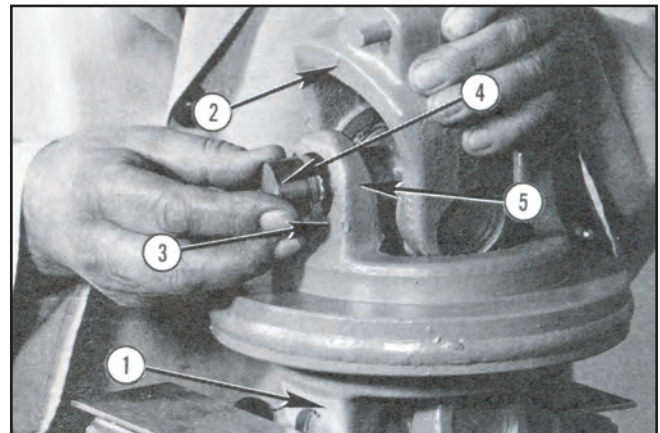

FIGURE 99
12. Clamp flange yokes assembly (1) between vice jaws as shown. Insert outer yoke and replaced center cross assembly (2) into yoke (3). Start needle bushing (4) into yoke. With a 1 1/4" O.D. driver (not shown), continue seating both bushings inward. Insure both center cross shafts are correctly piloting into needle bushings. Seat needle bushings until both snap rings can be reinserted. See Figure 99.
13. After completion of yokes and center crosses assembly, hammer strike all 8 yoke ears at (5) for stress relief. Thoroughly lube both joint assemblies and flange zerk before reinstalling shields and placing on unit. Align yokes straight when lubing flange zerk. Pump until substantial lube shows around centering disc.